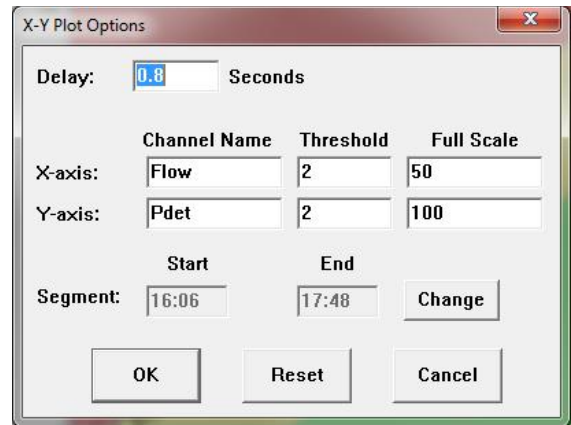

Figure 84: X-Y Plot Options Window
1. Click **Options!** from the *URA plot* window to open the *X-Y Plot Options* window (Figure 84).